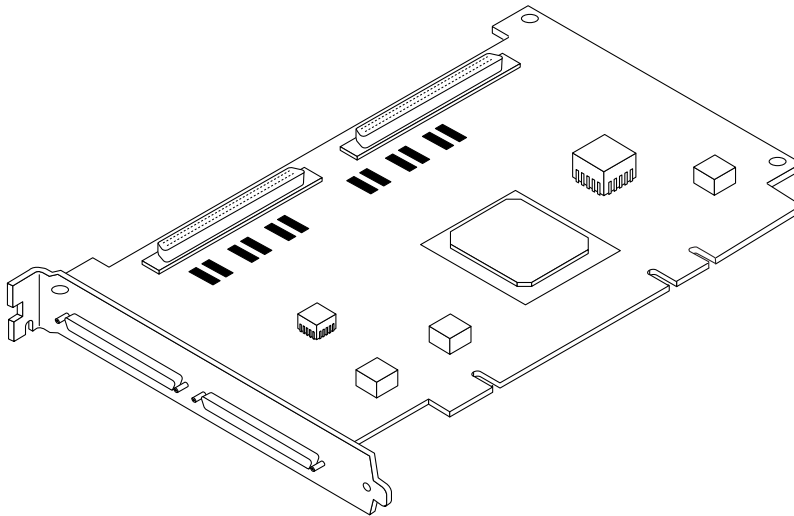

FIGURE 1-1 Sun StorEdge PCI/PCI-X Dual Ultra320 SCSI Host Adapter
- Sun StorEdge PCI/PCI-X Dual Ultra320 SCSI host adapter (Figure 1-1)